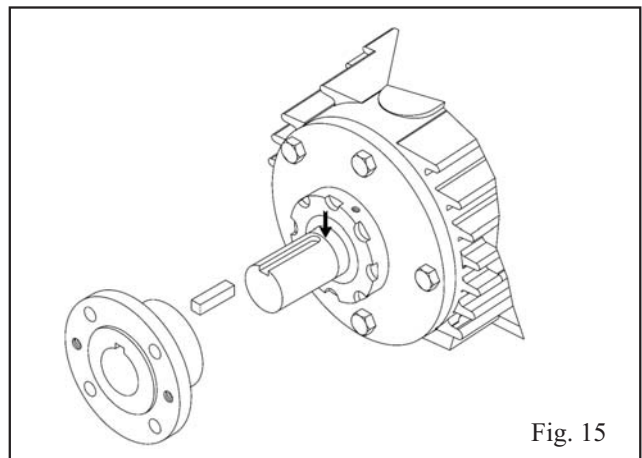

Fig. 15
1. Blue and scribe shaft (122) for relocating coupling hub during reassembly (Fig. 15).